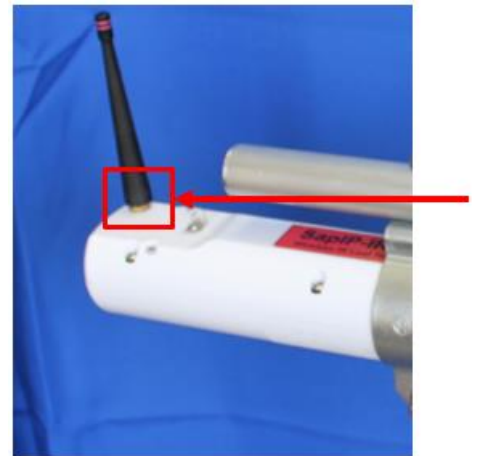

Figure 7: Location of the Antenna Fixture and Antenna
- Locate the golden male connection end at the top of the SapIP-IRT and screw on the antenna. Apply some silicone grease to the male threads to secure water tightness. An illustration below provides an idea of where the fixture is that the antenna will be screwed onto. See figure 7.